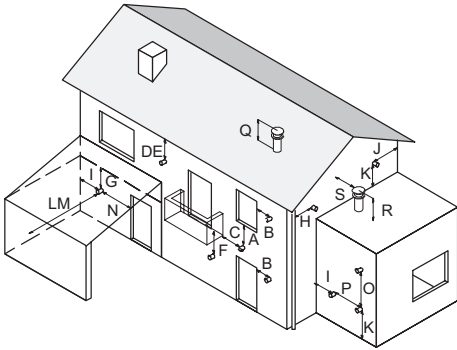

Figure 5.17
- comply with the minimum distances Figure 5.17 and any national or local regulations.